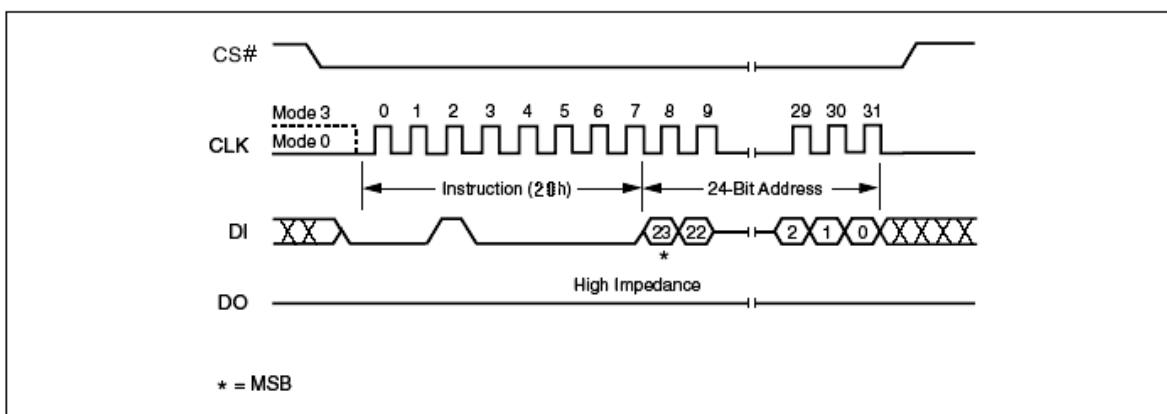

Figure 24. Sector Erase Instruction Sequence Diagram
The instruction sequence is shown in Figure 24. Chip Select (CS#) must be driven High after the eighth bit of the last address byte has been latched in, otherwise the Sector Erase (SE) instruction is not executed. As soon as Chip Select (CS#) is driven High, the self-timed Sector Erase cycle (whose duration is t_{SE}) is initiated. While the Sector Erase cycle is in progress, the Status Register may be read to check the value of the Write In Progress (WIP) bit. The Write In Progress (WIP) bit is 1 during the self-timed Sector Erase cycle, and is 0 when it is completed. At some unspecified time before the cycle is completed, the Write Enable Latch (WEL) bit is reset.